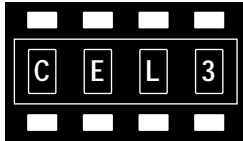

Figure 1
1. Press RUN/SETUP to place the dispenser in RUN mode (RUN indicator light on). The current cell number will be displayed. e.g., *CEL3*. (Figure 1)